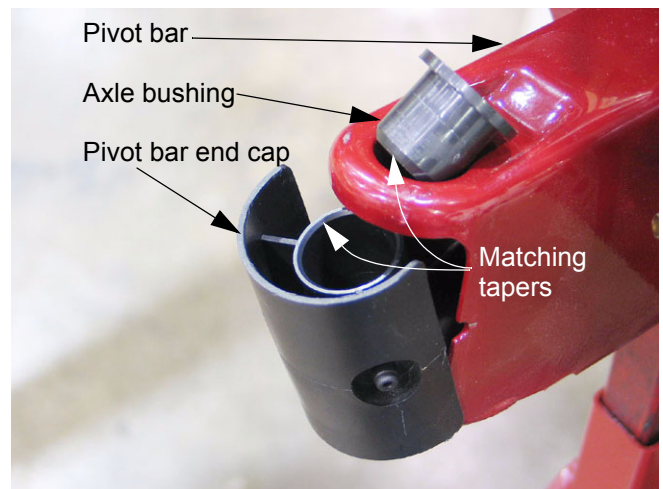

Figure 14.11
- 14.11. The bushings can be easily pried out of the pivot bar. See Figure 14.11.